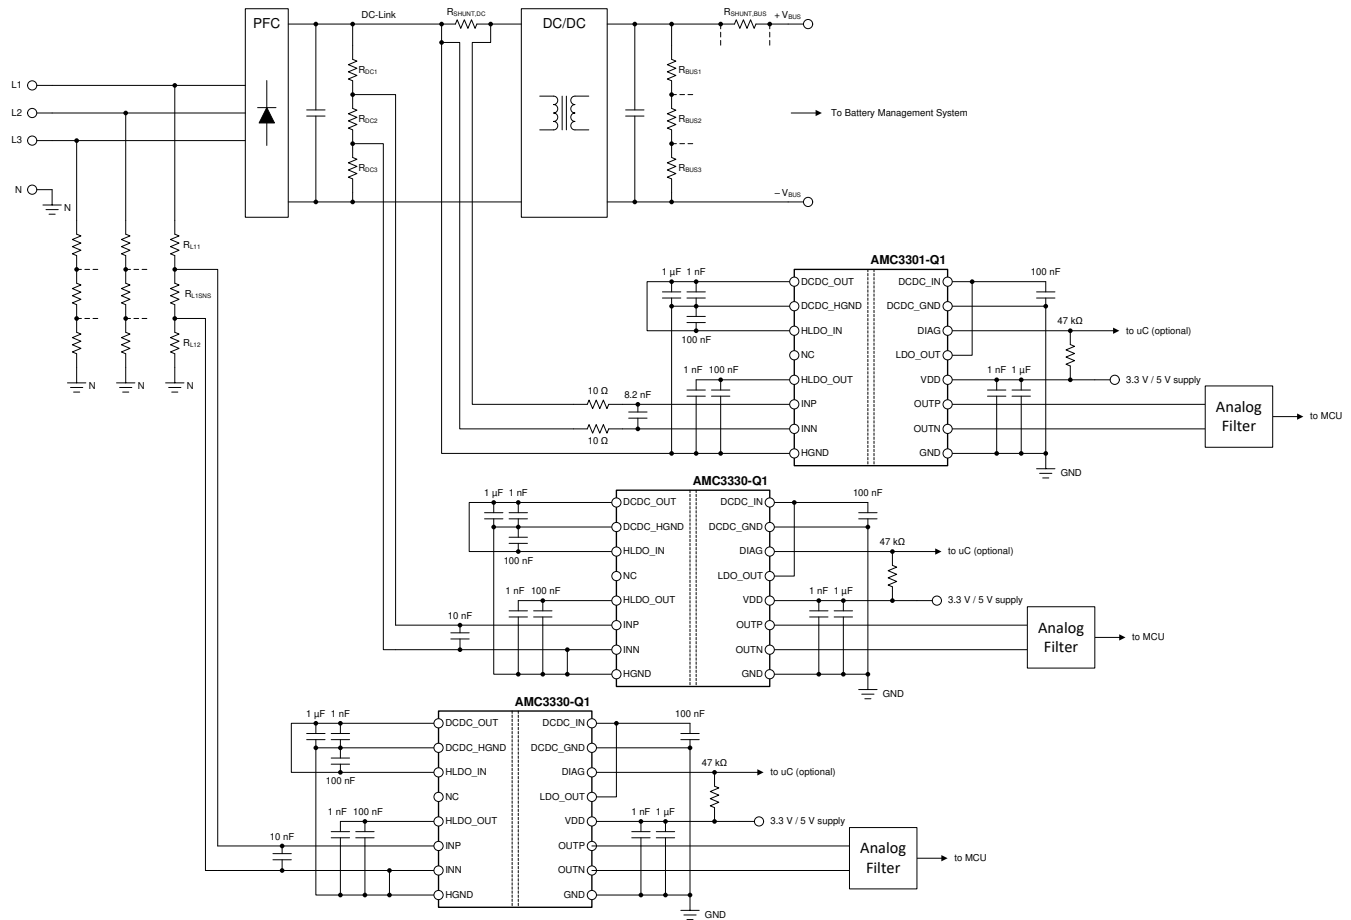

图 8-1. The AMC3330-Q1 in an OBC Application
**图 8-1** illustrates a simplified schematic of the AMC3330-Q1 in an OBC where the AC phase voltage on the grid-side must to be measured. At that location in the system, there is no supply readily available for powering the isolated amplifier. The integrated isolated power supply, together with its bipolar input voltage range, makes the AMC3330-Q1 ideally suited for AC line-voltage sensing. In this example, the output current of the PFC is sensed by the AMC3301-Q1 across a shunt resistor on the positive DC-link rail where there is also no suitable supply available for powering the isolated amplifier. The integrated power-supply of the AMC3301-Q1 eliminates that problem and enables current sensing at optimal locations for the system.